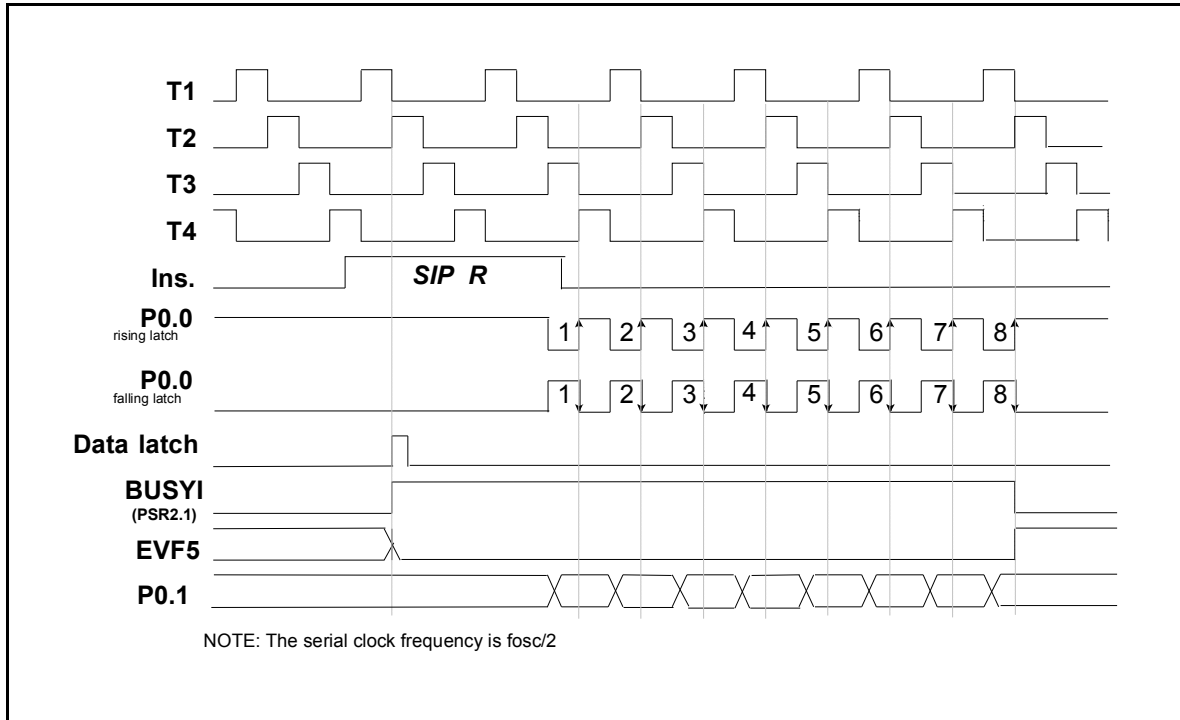

Figure 5-12 Timing of the Serial Input Function (SIP R)
- (1) **When in the first time the SIP R instruction is executed, the data will be loaded to the ACC and RAM from the serial input buffer. But this data is not meaningful, it is used to enable serial port.** There are two methods to get the serial data, one is interrupt and the other is polling. When enable the serial input, the bit 1 of port status register 2 (PRS2) will automatically be set to "1" (BUSYI = 1). Then the P0.0 pin will send out 8 clocks or accept 8 clocks from external device and the data from the P0.1 pin will be loaded to SIB buffer at the rising or falling edge of the P0.0 pin. After the 8 clocks have been sent, BUSYI will be reset to "0" and EVF.5 will be set to "1." At this time, if IEF.5 has been set (IEF.5 = 1), an interrupt is executed then the SIP R instruction can get the correct data from the serial input buffer (SIB), **low nibble of SIB moves to ACC register and the high nibble moves to RAM**; if HEF.5 has been set (HEF.5 = 1), the hold state is terminated. The polling method is to check the status of PSR2.1 (BUSYI) to know whether the serial input process is completed or not. If a serial input process is not completed, but the SIP R instruction is executed again, the data will be lost. The timing is shown in Figure 5-12.